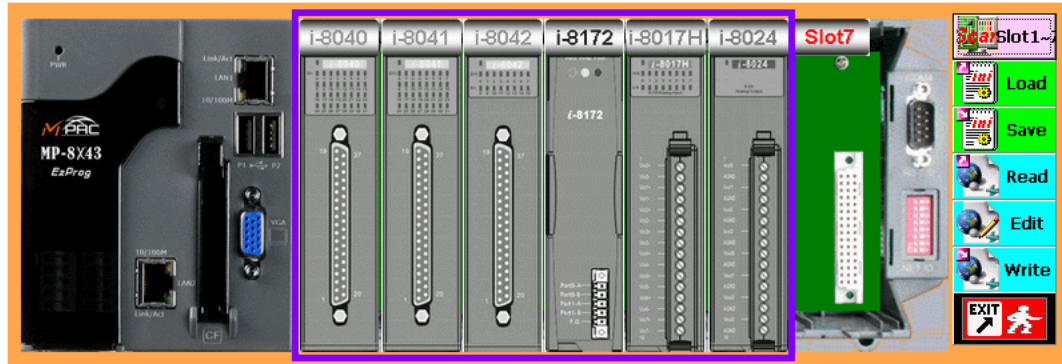

Figure 12: Modules detected during the scan process
Click on the image of the DI module i-8040 in the first slot (see Figure 12). The i-8040 module has got 32 DI channels. The current status of each channel is displayed together with the mapped register type (X) and register number.
Click on the image of the DO module i-8041 in the second slot (see Figure 12). The i-8041 module has got 32 DO channels. The current state of each channel is displayed together with the mapped register type (Y) and register number.
Click on the image of the DIO module i-8042 in the third slot (see Figure 12). The i-8042 module has got 16 DI and 16 DO channels. The current state of each channel together with the mapped register type (X or Y) and register number are displayed.
Click on the image of the FRnet module i-8172 in the fourth slot (see Figure 12). The first eight rows represent the FRnet addresses (00 to 07) for the digital output slaves for the FRnet master port 0 and 1. The remaining addresses (08 to 15) are reserved for digital input FRnet modules.